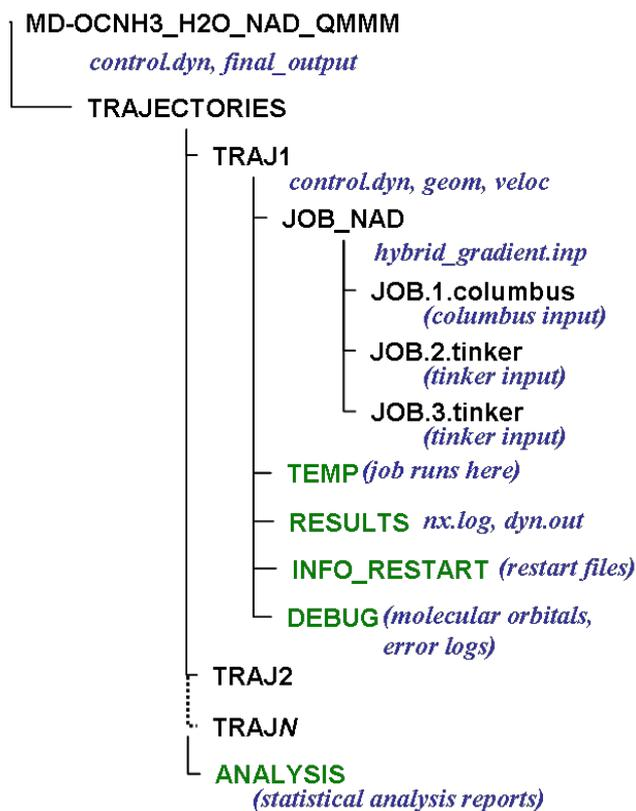

Fig. 9. Directory tree for a complete QM/MM surface hopping dynamics job with NEWTON-X.
13. The trajectories have been created in the `TRAJECTORIES` directory from where you can run them as usual. The final directory structure is shown in Fig. 9, including the results directory.